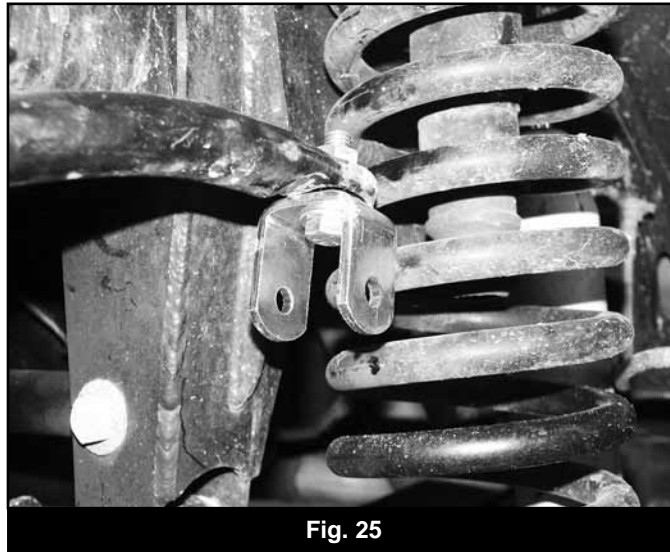

Fig. 25
65. Install the provided upper u-bracket (01325) to the sway bar using the original link mounting hole with a 7/16" x 1-1/2" bolt, nut, 7/16" SAE and 7/16" USS washers (BP 718). Install the bolt up through the u-bracket with an SAE washer into the sway bar. Fasten with the nut and USS washer. Position the bracket so that the thru-holes are parallel with the stud on the axle (Fig 25). Torque to 50 ft-lbs.